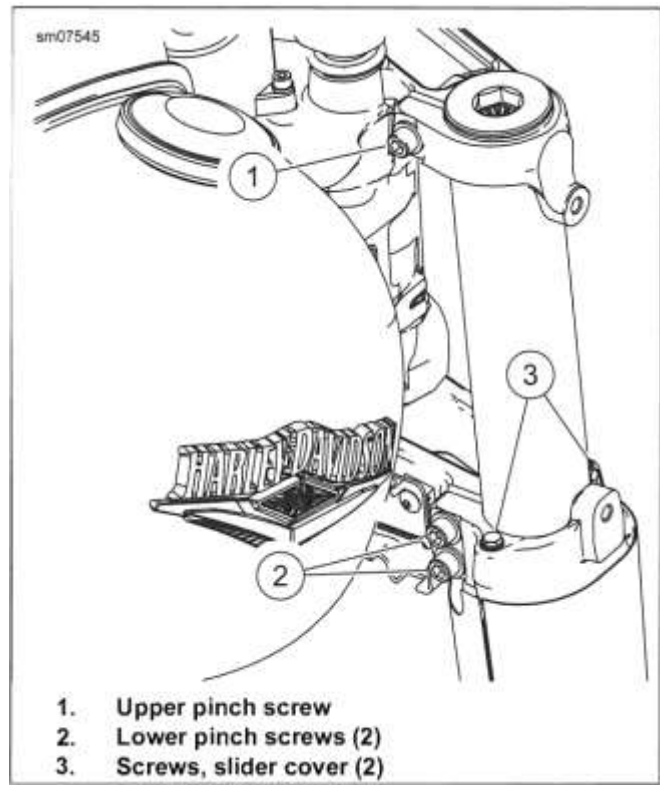

Figure 3-64. Front Fork Attachment
1. See Figure 3-64. Loosen upper pinch screw (1) but do not remove.
- b. Loosen lower pinch screws (2).
3. If necessary, remove screws (3). Remove slider covers.
1. See Figure 3-64. If removed, install fork covers.
- a. Apply threadlocker to threads of screws (3).
4. See Figure 3-64. Tighten lower fork bracket pinch screws (2) in sequence: